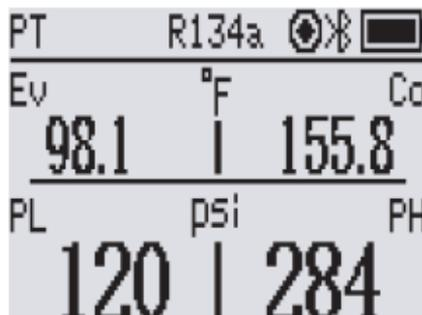

Figure 8 Data record icon
4. **Start recording** : Click to **Recording** , the recording icon on the device lights up and starts to flash (Figure 8) .
① The device can record up to 3000 pieces of data.